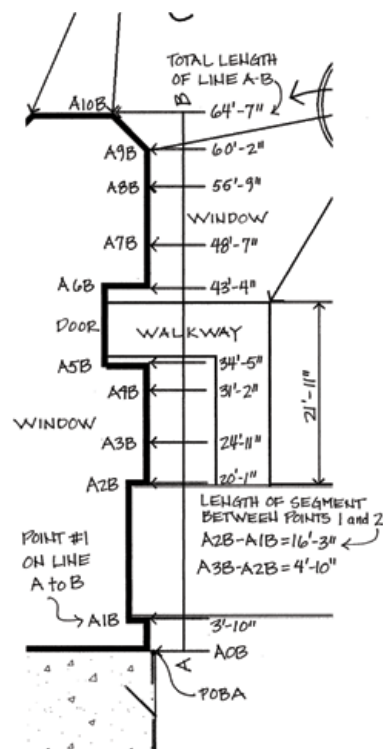

FIGURE 4. Baseline measurements along wall A–B (Credit: Gail Hansen)
Baseline or running measurements (Figure 4) are used for a series of measurements along a surface or wall. Stretching one tape along the edge of a wall or fence eliminates the need to continually move the tape and reduces error in measurements. Take baseline measurements as follows:
4. Calculate distances between points by subtracting the running measurements. For example, if you want to know the width of a window from point 3 to point 4, subtract the measurement of point 3 from point 4. In Figure 4, point 4 on line A–B = 31'2", point 3 = 24'11"; therefore,  $A4B - A3B = 6'3"$ .